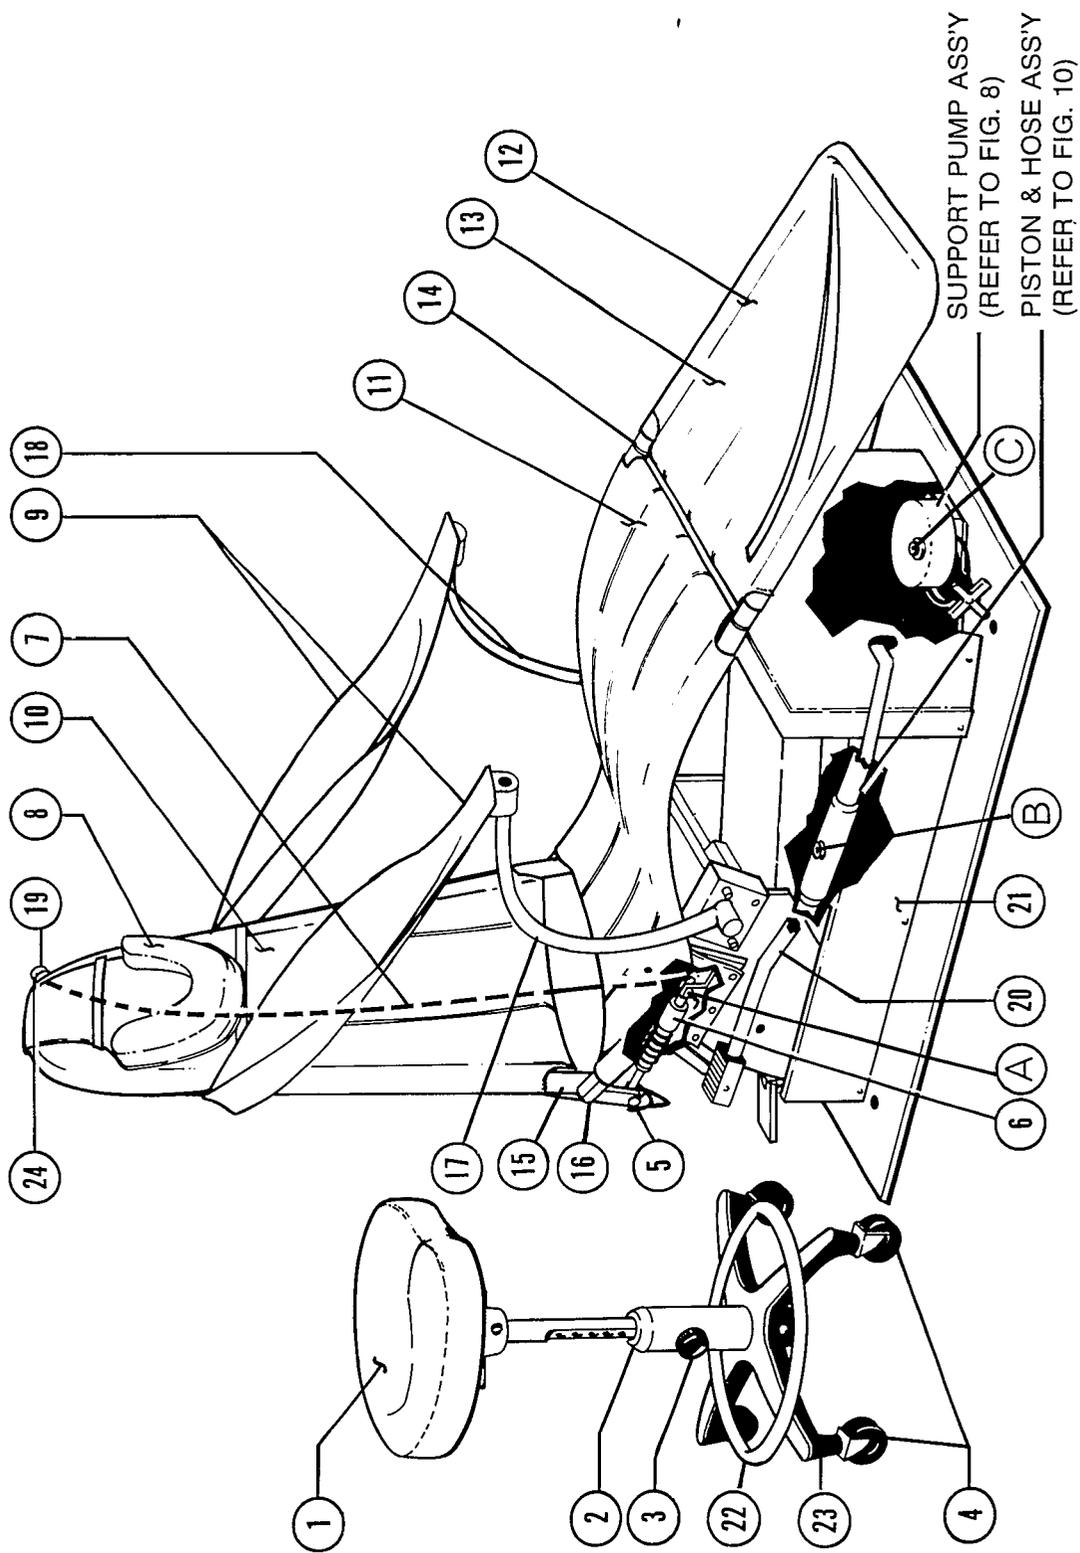

Figure 6. Field Chair, Base, and Stool
To remove the hydrolok assembly, remove the connecting pin and the nut at "A" (see figure 6). To reassemble, follow the foregoing instructions in the reverse direction.
1. Removal of trapped air in the hydraulic system may be accomplished by one of two methods: if the amount is small it will usually purge itself after a few operations of the base through its full height adjustment. If this means proves inadequate, loosen a screw that appears at the top end of the lift cylinder at "B" (see Figure 6) and pump the foot pedal until a small amount of oil issues; at this point, re-tighten the screw and wipe the leakage oil from the cylinder.
3. To add oil to the reservoir, remove the plug at "C" (see Figure 6) and raise the chair to its maximum height. Check level of oil by inserting the tip of a screwdriver or some other instrument. Oil level should come up to 1/2 inch depth. If the depth is less than 1/2 inch, add enough oil to attain that level.
### FIELD CHAIR, BASE & STOOL (Refer to Figure 6)